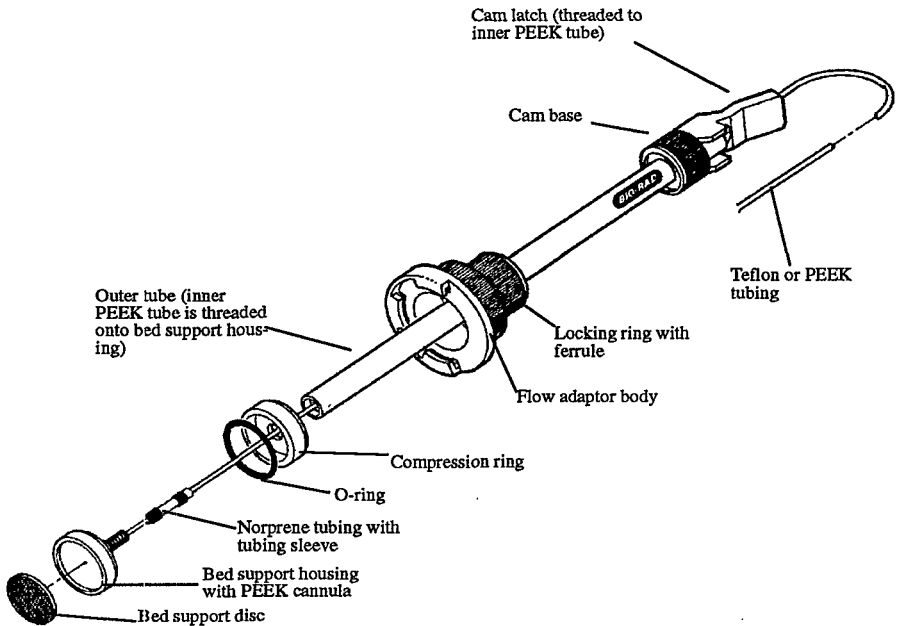

Fig. 5. Assembly with Teflon or PEEK tubing.
2. Push the tubing collars over the tubing sleeve (Figure 5).